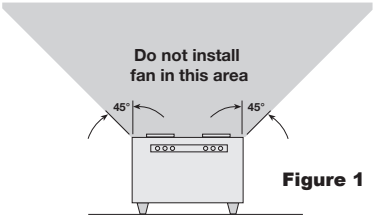

Figure 1
- For best performance, choose a location with the shortest possible duct run and minimum number of elbows. Do not mount near cooking equipment, as shown in Fig. 1.